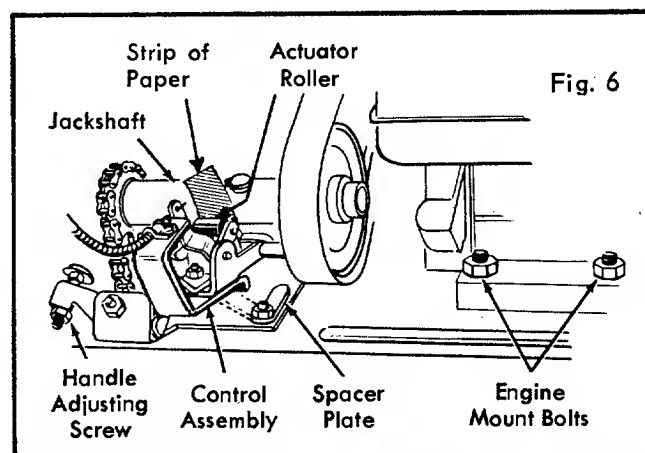
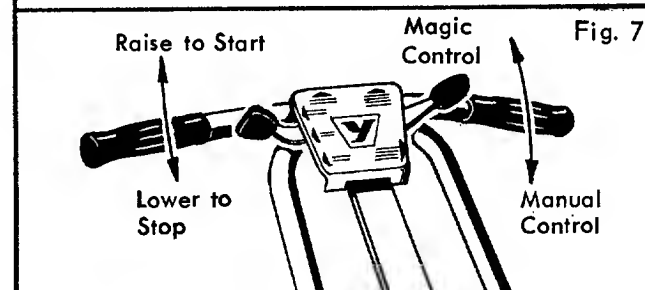

Fig. 6
Fig. 7
1. (Fig. 6) (Fig. 7) Set hand control lever in MAGIC CONTROL and handle in stand-up position.
1. Place hand lever in MANUAL position (Fig. 7)